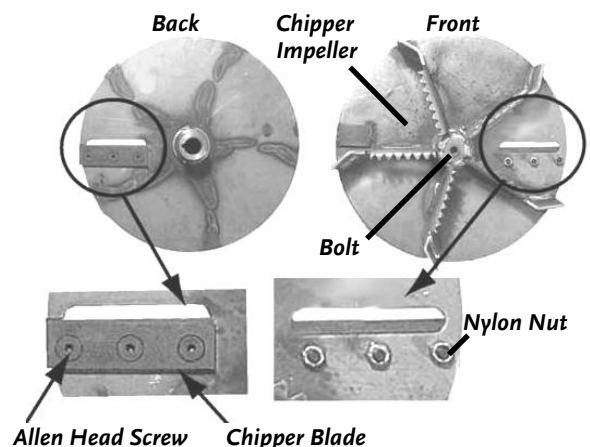

Figure 47
4. Using a 9/16" Wrench or Socket, remove the Chipper Impeller retaining Bolt from the engine shaft and slide the Impeller off the shaft (**Figure 47**). Be sure to save the Key in the slotted shaft.
5. The Chipper Blade is attached to the Impeller with three (3) Allen head screws and three (3) Nylon Lock Nuts (**Figure 47**). Using a 3/16" Allen Wrench and 1/2" Wrench, remove the old Chipper Blade by removing the three (3) Screws and Nuts.